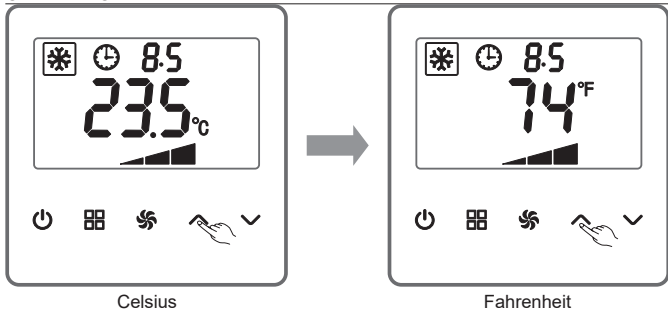

Figure 3
- (1) During the operation of the unit, press  (UP) or  (DOWN) to raise or lower the temperatures.
- (2) When the temperature unit is Celsius, one press of the UP key or the DOWN key causes a 0.5°C increase or decrease within 16°C~35°C.
- (3) When the temperature unit is Fahrenheit, one press of the UP key or the DOWN key causes a 1°F increase or decrease within 61°F~95°F.
- (4) When keeping pressing the UP key or the DOWN key, the temperature varies every 0.5 second.
- (5) As shown in Figure 3, the indoor ambient temperature display, if activated, will appear by default after the unit is started. A desired temperature being set appears temporarily. Later, the default temperature will reappear without any operation in 5 seconds.